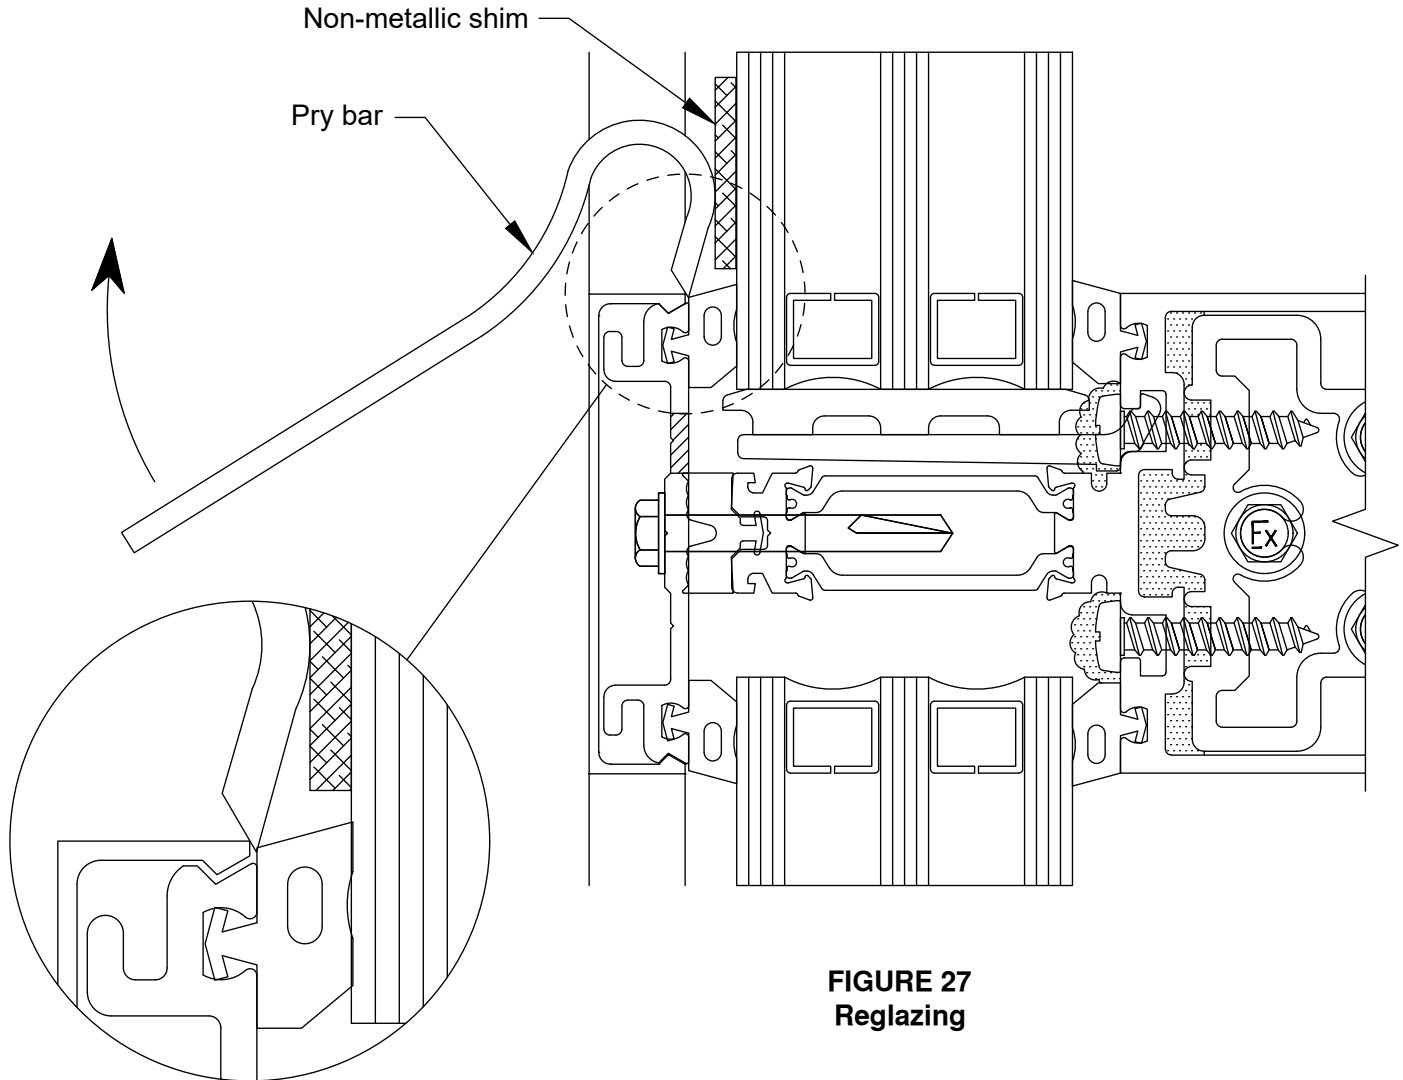

FIGURE 27
- E.1 Reglazing must be done from the exterior. carefully remove face covers surrounding the lite of glass to be deglazed. **SEE FIGURE 27.**